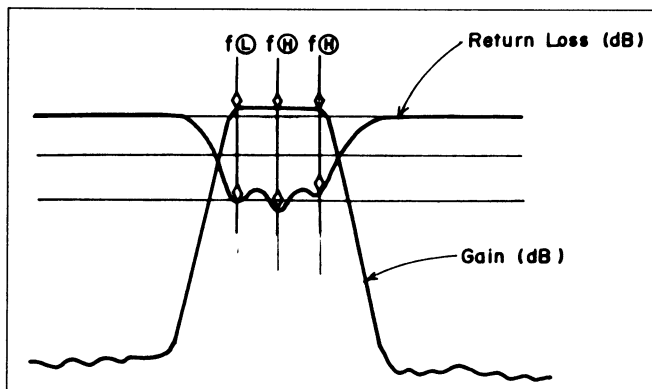

FIGURE 12 - RF FREQUENCY RESPONSE
2. Set the sweep frequency of the Network Analyzer to $f(M) + 100$ MHz and apply markers to $f(M)$, $f(L)$ and $f(H)$ (see Figure 12).
8. The Network Analyzer is shown in Figure 12. The guide line for the return loss within the bandwidth is -8 dB or less. The guide line for the gain deviation within the bandwidth is 3 dB or less.